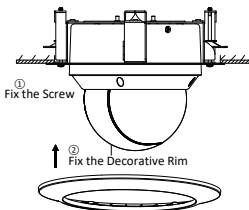

Figure 2-64 Assemble the Decorative Rim
8. Fix the decorative rim with the bubble and the decorative rim will be attached to the in-ceiling bracket automatically, as shown in Figure 2-64.